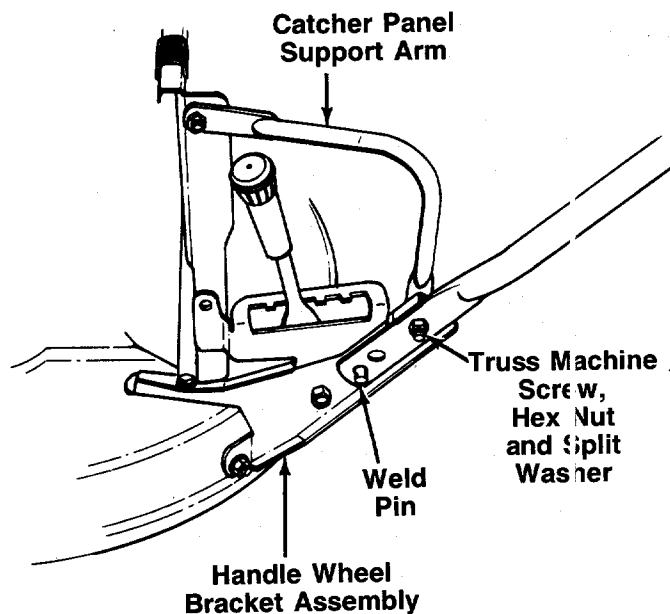

FIGURE 1.
2. On the left side of the mower, remove the truss machine screw, hex nut and split washer from the handle wheel bracket assembly as shown in figure 1.
4. Pivot catcher panel support arm in position as shown in figure 1. Insert truss machine screw through catcher panel support arm, wheel bracket assembly and handle. Secure using the split washer and hex nut removed in step 2. Tighten securely.